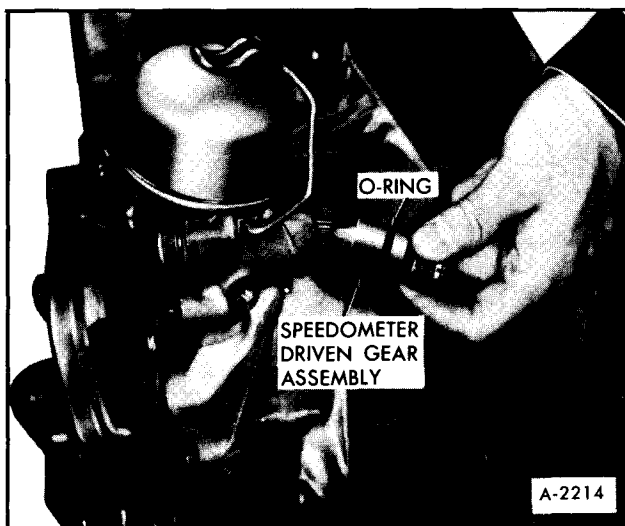

Figure 106—Installing Speedometer Driven Gear
3. Install speedometer housing and seal assembly and white nylon driven gear into transmission case, Figure 106.